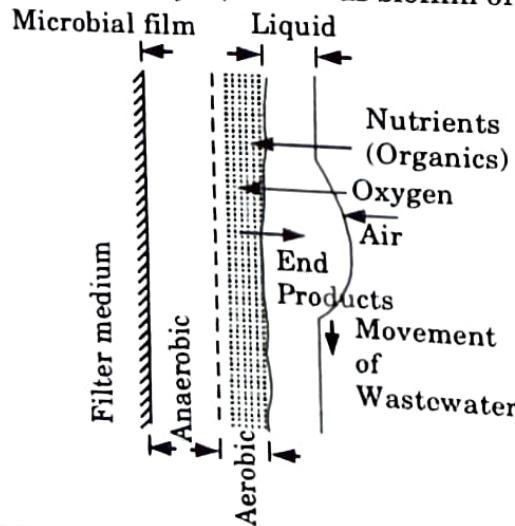

Fig. 5.5.1. Schematic diagram of removal mechanism in a trickling filter.
3. Fig. 5.5.1 shows a schematic diagram of organics removal mechanism in a trickling filter. A stage comes when anaerobic conditions are developed nearer to the media surface and the micro-organisms cannot remain attached or fixed to the media.